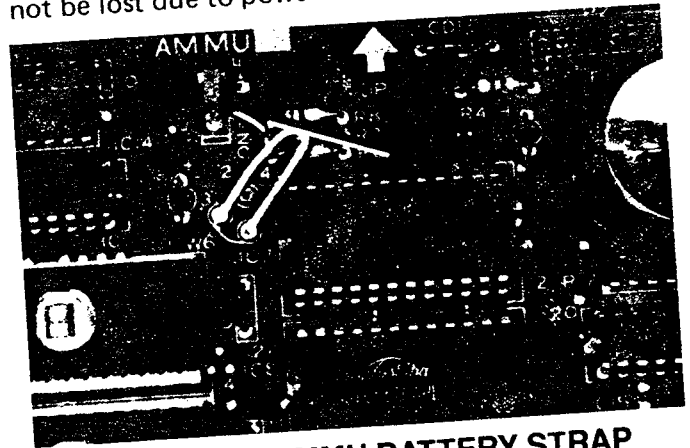

FIGURE 37—AMMU BATTERY STRAP
10.02 Refer to Figure 37 and verify that the battery on the AMMU is connected to ensure that data changes entered after initialization will not be lost due to power failure.